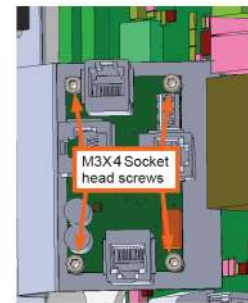

Figure 129
- Disconnect the external communication cable coming from the wall from the respective connector(as given below) on the Communication board.(Refer"5.8 Intraskan DC Console configurations:") shown in Figure 129 Remove the Console extension board-internal from the base unit plate by removing 4 M3×6 HSHC screws at the locations as shown in Figure 129 using 2.5mm allen key .
- Take the new Console extension board-internal from the packing box and fix it in the base unit with 4 no's of M3×4 HSHC screws using 2.5mm allen key at the locations shown in Figure 129 . Connect the cable coming from power board to the PB/J4 connector on the Console extension board-internal.